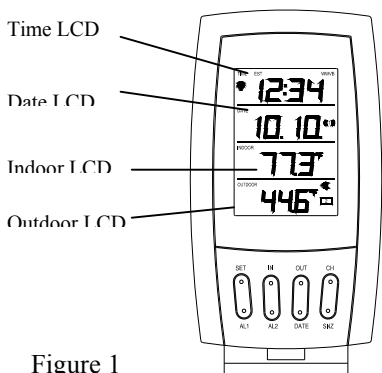

Figure 1
1. The weather station (Figure 1).